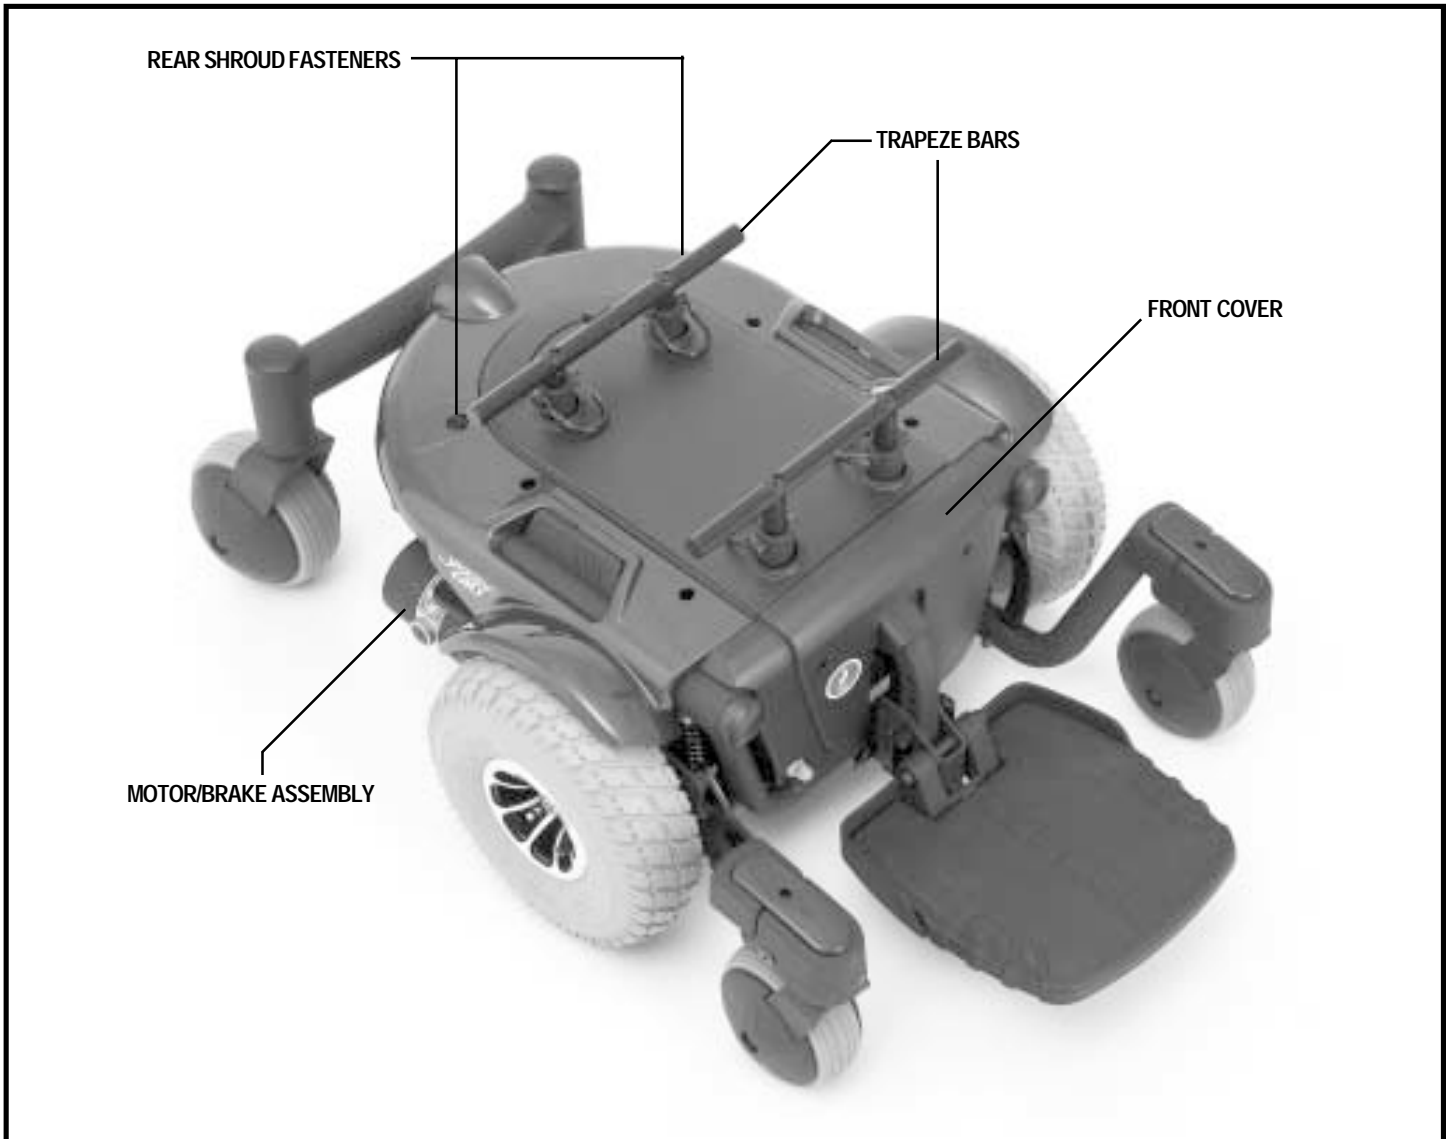

Figure 6. The Jazzy 610 Power Base
5. Turn the rear shroud fasteners counterclockwise one-quarter turn. See figure 6.
2. Unlock the rear shroud fasteners and remove the rear shroud. See figure 6.